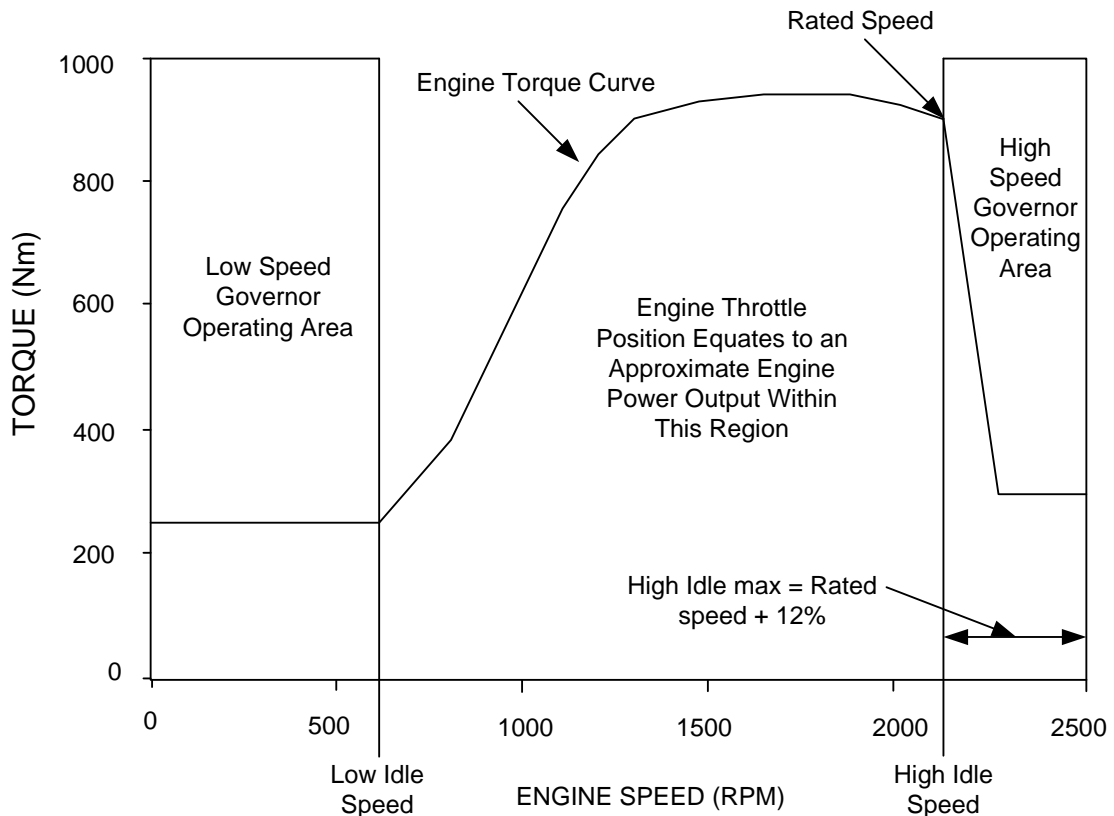

Figure 15.1 Min Max Governor Operating Regions
Figure 15.1 illustrates the Min/Max engine speed governor operation across the engine operating speed range. The curve is bounded by the rating torque curve between LI and Rated engine speed (RS) once above rated speed the HSG limit curve takes over. For a fixed throttle position, the Min/Max governor will deliver a constant amount of power proportional to the throttle position, the engine power output will remain fairly constant, and engine speed will vary with engine load.
Min/Max governing above the configured Rated speed (RS) is limited by the HSG limit curve. This region of operation is often referred to as the overrun region (shown in figure 15.1 as the High Speed Governor operating area). The HSG limit curve is always below the rated torque curve. This curve is